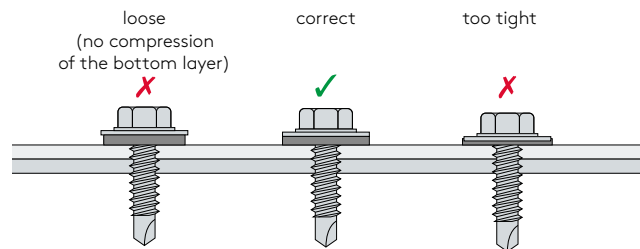

Fig. 65.: correct tightening of screws in respect of compression
- The panel is fastened tight by using a tightening tool. It is necessary that the screw is appropriately tightened (see Fig. 65) so that the sealing washer can perform its function.
Before the assembly starts it is necessary to remove possible burrs on the edges of panels. Removal of burrs is performed manually using a tempered steel spatula. In order for the washers to perform their function properly it is necessary to provide sufficient tightening of fasteners. (see Fig. 65).